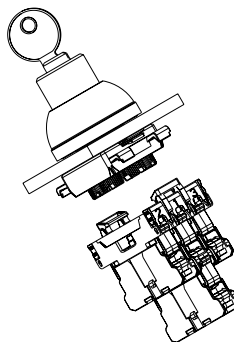

Fig. 5
2. Opening of the contact lugs and disassembly of the contact elements (see Fig. 5 and 6): lift both contact lugs to release them from the catch mechanism and then fold them 90° up. Now, the contact elements can be disassembled.